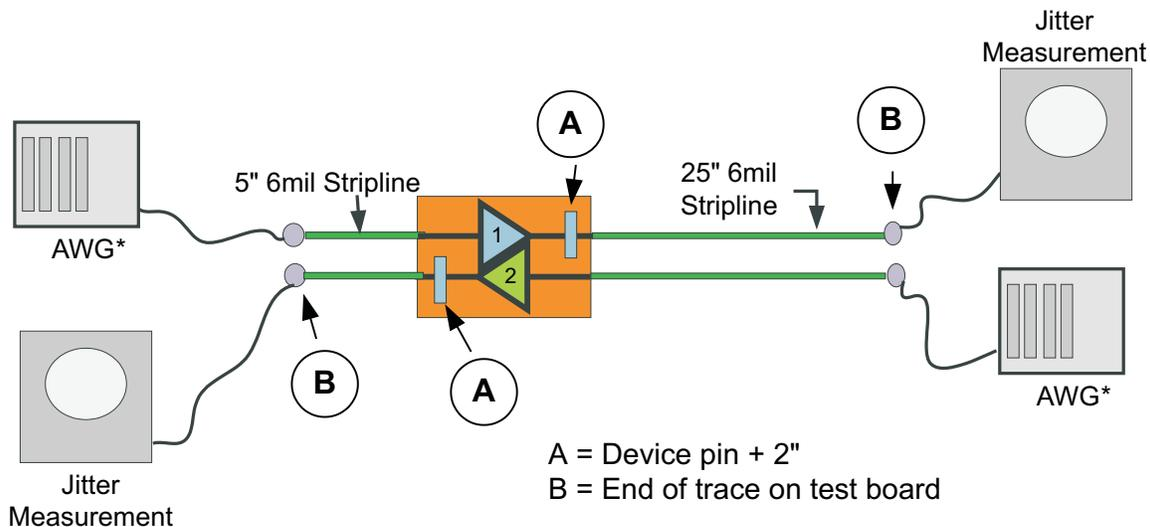

Figure 10. Jitter Measurement Setup
(1) Includes RJ at 10-12
(2) Refer to Figure 10 with ± K28.5 pattern at 5Gbps, -3.5dB DE from source AWG .